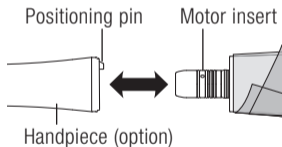

Figure 3.
- 1 Insert the E-type handpiece into the motor insert, and turn until it clicks as the positioning pin on the handpiece falls into positioning hole on the motor. (Figure 3.)